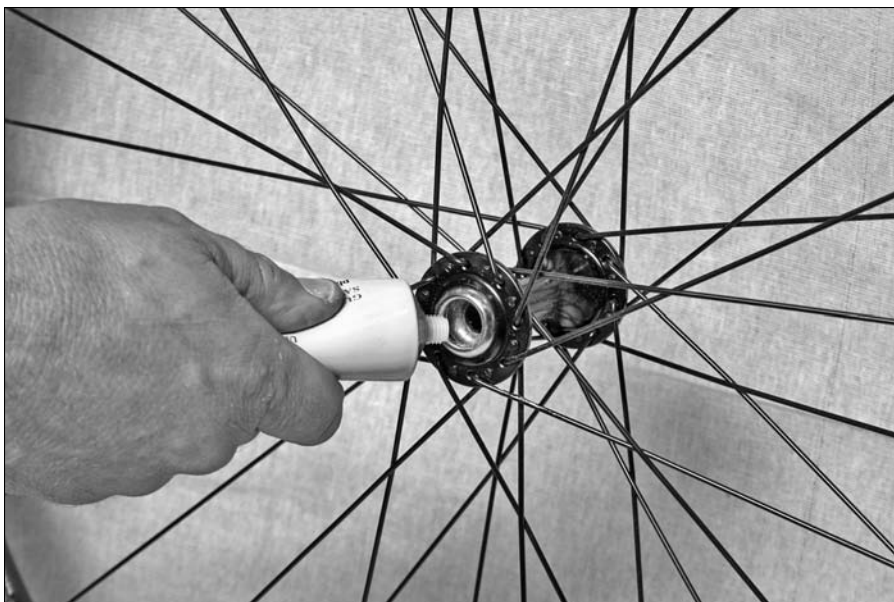

Figure 7-8:
- 2. Apply a fresh layer of grease to each of the cups (as shown in Figure 7-8).**